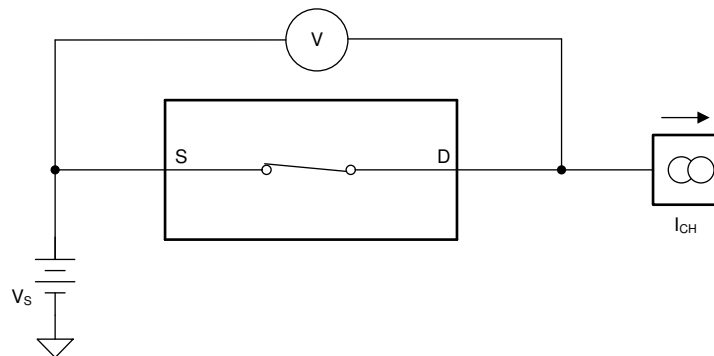

Figure 8-1. On-Resistance Measurement Setup
The on-resistance of the TMUX6111, TMUX6112, and TMUX6113 is the ohmic resistance across the source (Sx) and drain (Dx) pins of the device. The on-resistance varies with input voltage and supply voltage. The symbol R_{ON} is used to denote on-resistance. The measurement setup used to measure R_{ON} is shown in Figure 8-1. Voltage (V) and current (I_{CH}) are measured using this setup, and R_{ON} is computed as shown in Equation 1: